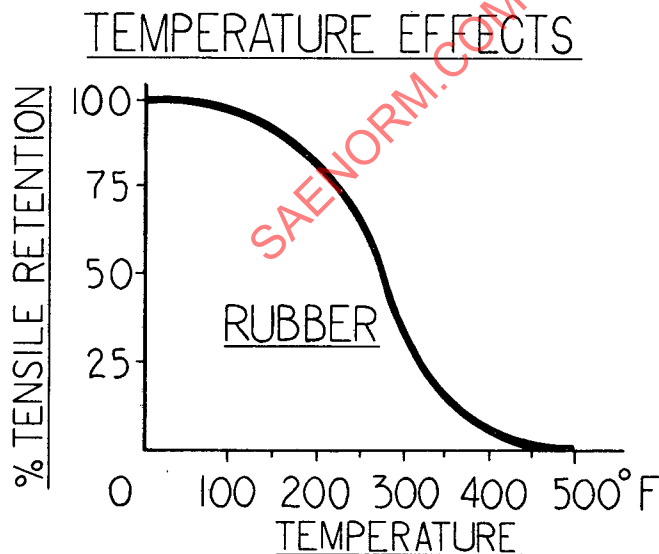

FIG. 1
3.1 **Origin of tire heat**—The temperature described in paragraph 3.0 occurs at or near the interface of the undertread and carcass (see J751, Fig. 1). This results from the transitory load on the tire crown causing the tire to flex, producing the greatest stresses at or near the junction of the undertread and carcass. The TMPH rating of a tire is established from the maximum stabilized temperature along that interface.
3.2 **Effect of Tire Heat**—As a tire's temperature increases, its material strengths decrease (Fig. 1). Repeated or sustained exposure to excessive temperatures will ultimately produce tire damage. Heat damage is progressive. It may go undetected or become evident under operating conditions where no apparent cause exists.